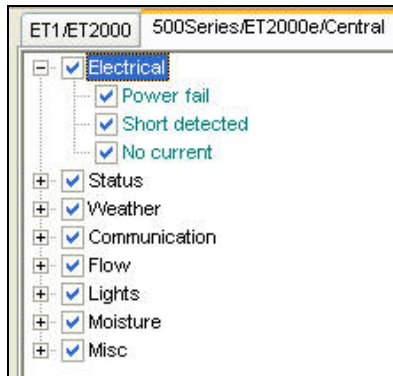

Figure 8.5.2
- To view the individual alert options under each heading click on the “+” next to the heading to expand the alert features of each heading (Figure 8.5.2).